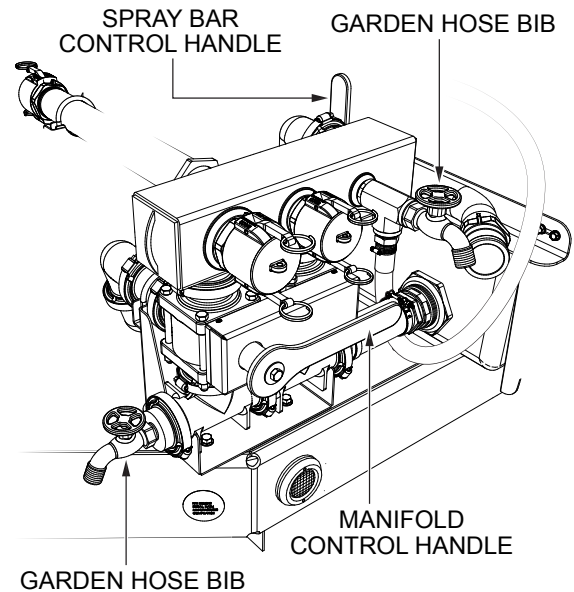
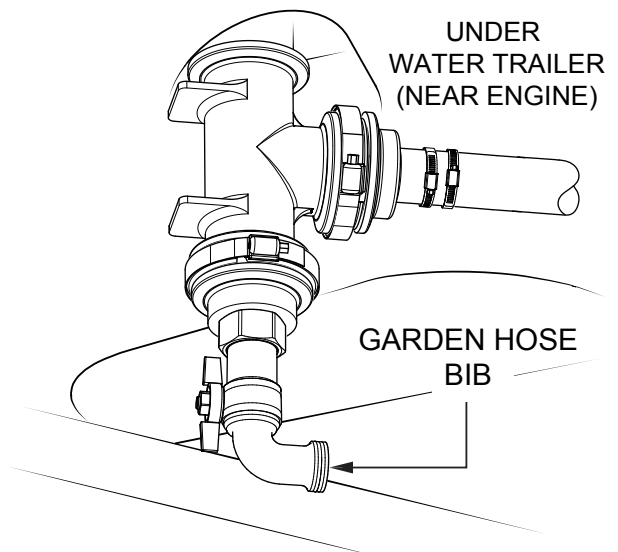

Figure 25. Control Handle Positions and Garden Hose Bibs Location
Figure 26. Third Garden Hose Bib Location
4. Rotate the manifold control handle to the 3 o'clock position (horizontal/right). See Figure 25.
5. Rotate the spray bar control handle to the 12 o'clock position (vertical). See Figure 25.
6. Locate and open all three garden hose bibs (parallel with pipe position) and leave open. See Figure 25 and Figure 26.